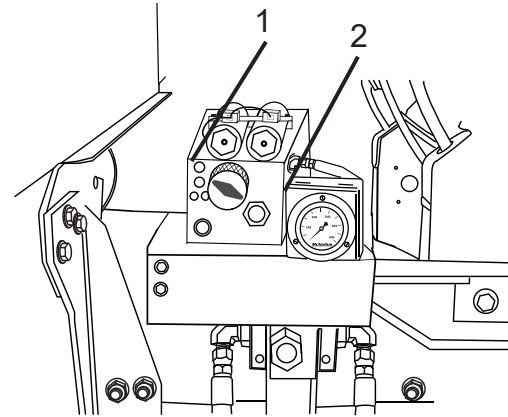

Figure 91
4. Turn the PRV knob (Figure 91, Item 1) all the way counterclockwise to minimize the pressure applied
to the Bridgemaster axle when the drum is empty. Pressure will be displayed on the gauge (Figure 91, Item 2).